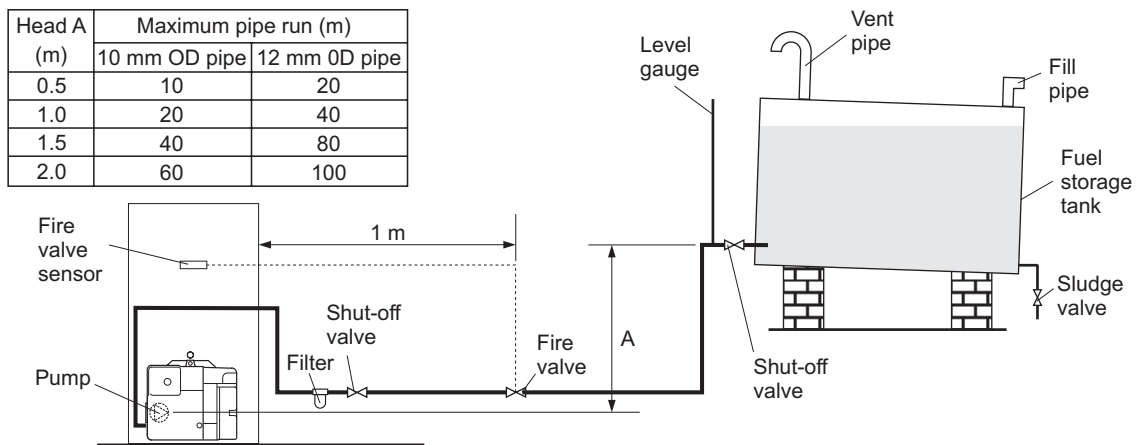

Fig. 2 - Single pipe system
4.4.3 Single pipe system - (See Fig. 2)